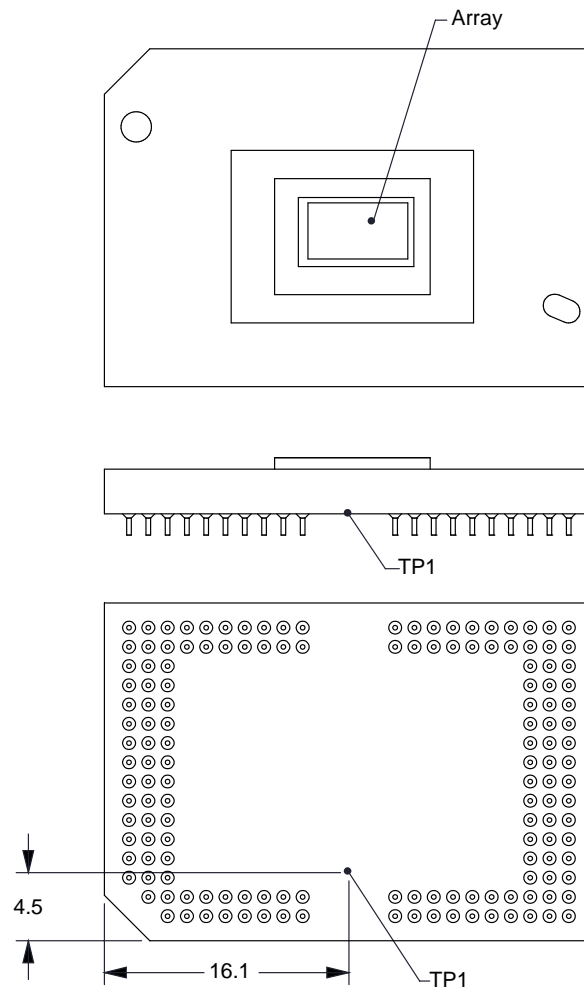

Figure 12. Thermocouple Locations
Relationship between array temperature and the reference ceramic temperature (thermocouple location TP1 in Figure 12) is provided by the following equations.
- T_{CERAMIC} = measured ceramic temperature (TP1 location in Figure 12) (°C)
- S_{L} = measured screen lumens (lm) (2)